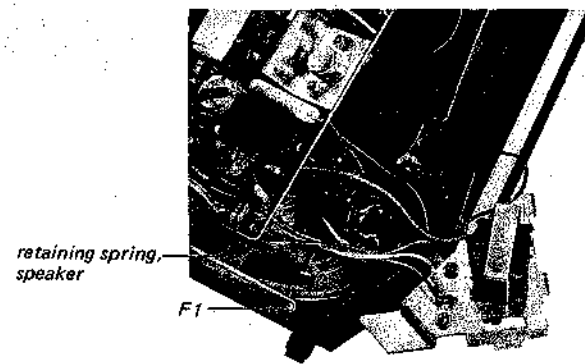

Fig. 2-10.
4. Remove the one screw labeled F1 in Fig. 2-10.